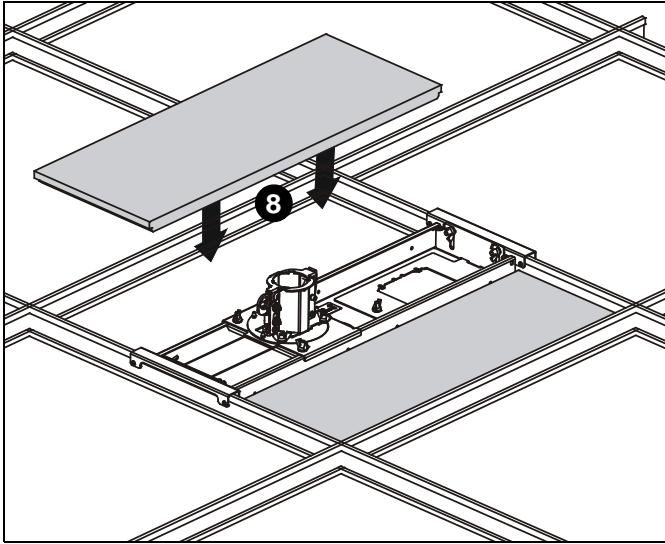

Figure 19
8. **Flush with Suspended Ceiling only:** Re-install ceiling tile to fit along side(s) of SYSAU. (See Figure 19)